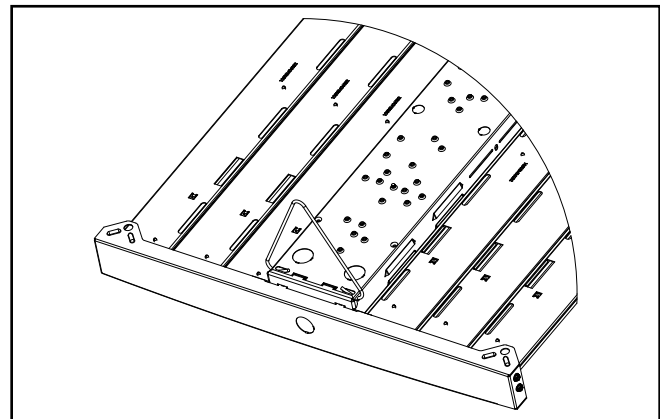

Figure 3.
2. Insert V-Hanger into open mounting slots on fixture and close hook with pliers to lock into fixture. (Figure 3.)